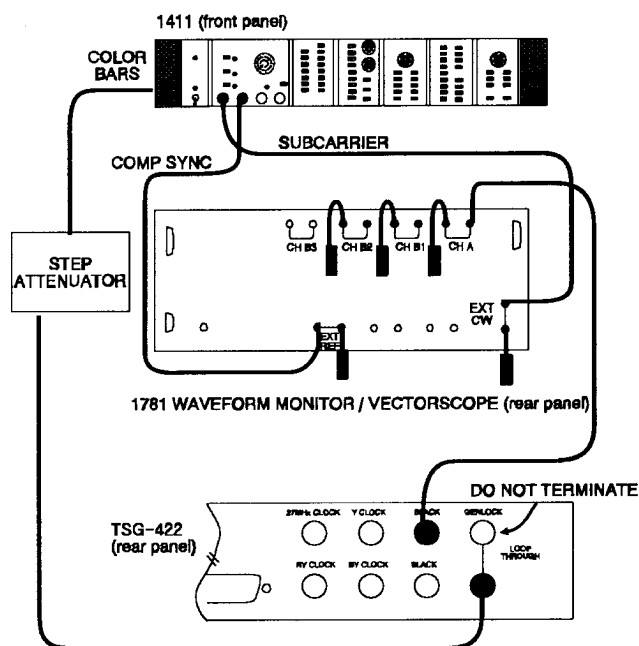

Fig. 5-8. Setup to check the 625/50 genlock.
- Connect the equipment as shown in Fig. 5-8.
- a. Connect the equipment as shown in Fig. 5-8.